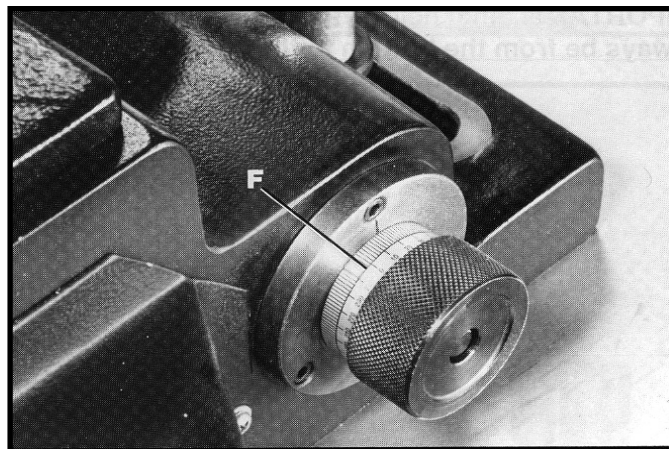

Fig. 26
5. Indicator collars (F) Fig. 26, are supplied to give the exact dimension each fence half is moved.